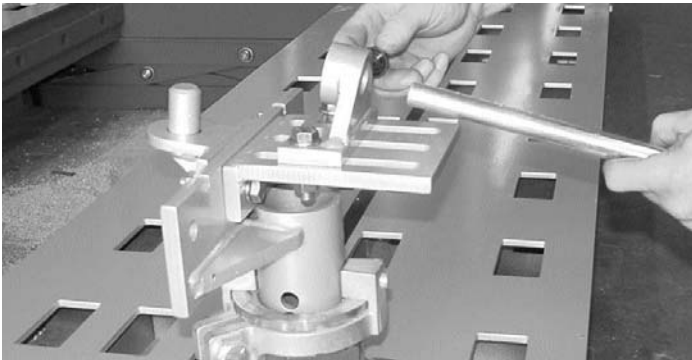

Figure 5
- 7) Insert anchoring pin through hole in rocker pin plate (see Figure 5) projecting it as far as possible into the jack tube. Secure the pin with the thumb screw on the side of the rocker pin plate.